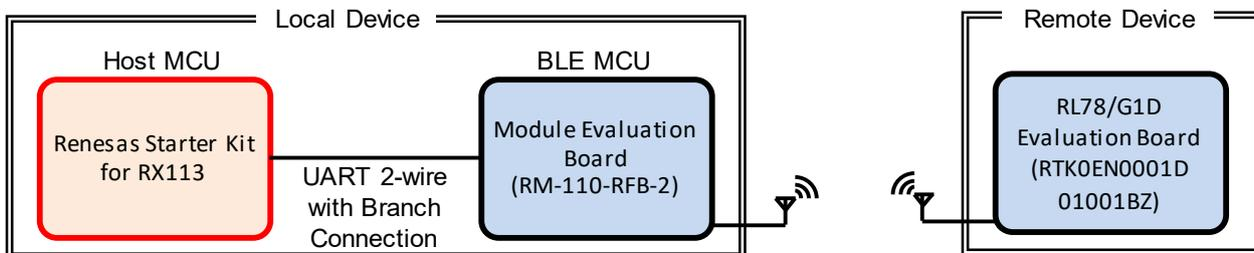
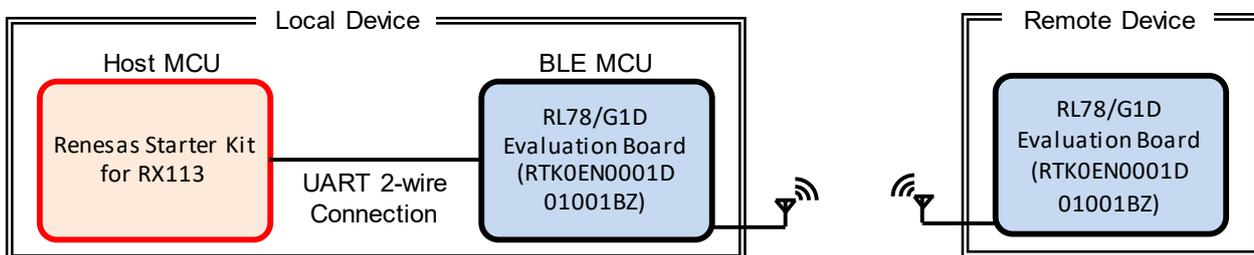

Figure 2-1 System configuration (1) (RY7011)
Figure 2-2 System configuration (2) (BLE Evaluation Board)
The system configuration diagram used with the simple API program is shown below. Simple API is used in modem configuration. "Figure 2-1 System configuration (1) (RY7011)" uses the Renesas Starter Kit for RX113 (hereinafter referred to as "RSK") for the Host MCU on which the simple API operates as local device. The BLE MCU uses the Module Evaluation Board (RM-110-RFB-2). The default baud rate of UART 2-wire branching connection method is 115,200 bps. The remote device uses the virtual UART (R01AN3130) application on the RL78/G1D evaluation board (RTK0EN0001D01001BZ).
"Figure 2-2 System configuration (2) (BLE Evaluation Board)" is a configuration using the BLE software of modem configuration with the RL78 / G1D evaluation board (RTK0EN0001D01001BZ) as the BLE MCU of local device. The default baud rate of the UART 2 wire system is 4800 bps. When using BLE software, it is necessary to incorporate a general purpose communication profile in order to perform BLE communication. Refer to "8.1 Change of BLE software" for the installation method.
The default setting of the FIT module used in "Figure 2-1 System configuration (1) (RY7011)" is shown below. When using in "Figure 2-2 System configuration (2) (BLE Evaluation Board)", it need to change source code and project settings and build the program. Refer to "8.1.1 Preparation of Host MCU Program", "8.1.2 Build of Host MCU Program" for the implementation method.
This chapter explains how to execute a simple API program by using a configuration that uses a module evaluation board for the BLE MCU in "Figure 2-1 System configuration (1) (RY7011)".